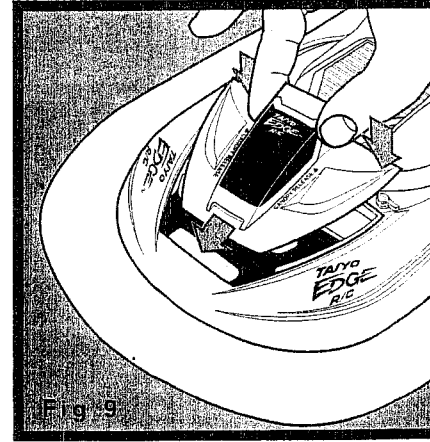

Fig. 9
4. Replace BATTERY DOOR front first by aligning front edge of door and compartment, lowering rear of door into place and turning LATCHES to locked position (latches click onto little "bumps" in door). (Fig. 9)